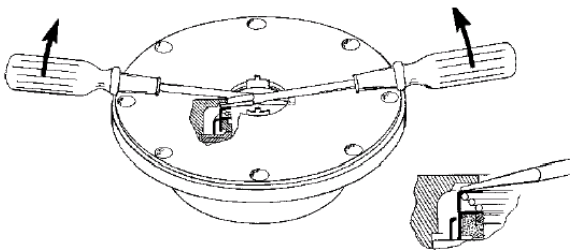

Figure 6
2. Remove the inboard bearing cover capscrews (28) and slide the inboard bearing cover (27A) and gasket (26) off the shaft. Discard the bearing cover gasket.
3. Remove the outboard bearing cover capscrews (28) and slide the outboard bearing cover (27A) and gasket (26) off the shaft. Discard the bearing cover gasket.
5. Remove the head capscrews (21) and carefully pry the head (20) away from the cylinder. Jack screw holes are provided on the STX3 if needed.
6. Slide the head off the shaft. The head O-ring (72), bearing (24), and mechanical seal (153) will come off with the head assembly. Remove and discard the head O-ring.
- a. Pull the bearing (24) from the housing in the head.
- b. To remove the **mechanical seal** (153), use two screwdrivers to gently push the backside of the seal jacket to push the seal from the head (see Figure 6). Use care when placing the screwdrivers to prevent damage to the seal faces. Remove and discard mechanical seal O-rings.